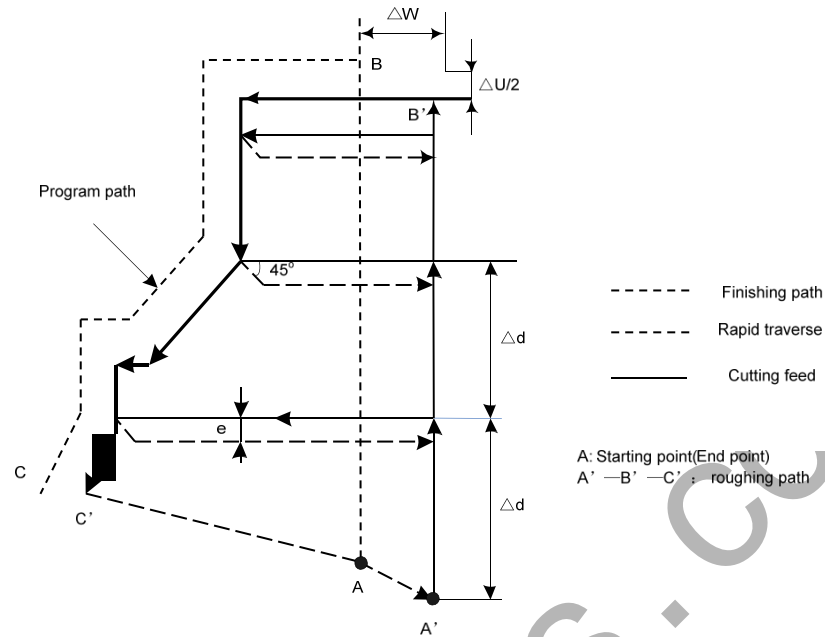

Fig. 3-25 G71 cycle path
1) Execution process: (Fig. 3-25)
- ① X rapidly traverses to A' from A point, X travel is Δu , and Z travel is Δw ;
- ② X moves from A' is Δd (tool infeed), ns block is for tool infeed at rapid traverse speed with G0, is for tool infeed at feedrate F with G71, and its direction of tool infeed is that of A→B point;
- ③ Z executes the cutting feeds to the roughing path, and its direction is the same that of Z coordinate B→C point;
- ④ X, Z execute the tool retraction e (45° straight line) at feedrate, the directions of tool retraction is opposite to that of too infeed;
- ⑤ Z rapidly retracts at rapid traverse speed to the position which is the same that of Z coordinate;
- ⑥ After executing X tool infeed ($\Delta d + e$) again, the end point of traversing tool is still on the middle point of straight line between A' and B' (the tool does not reach or exceed B'), and after executing the tool infeed ($\Delta d + e$) again, execute ③; after executing the tool infeed ($\Delta d + e$) again, the end point of tool traversing reaches B' point or exceeds the straight line between A'→B' point and X executes the tool infeed to B' point, and then the next step is